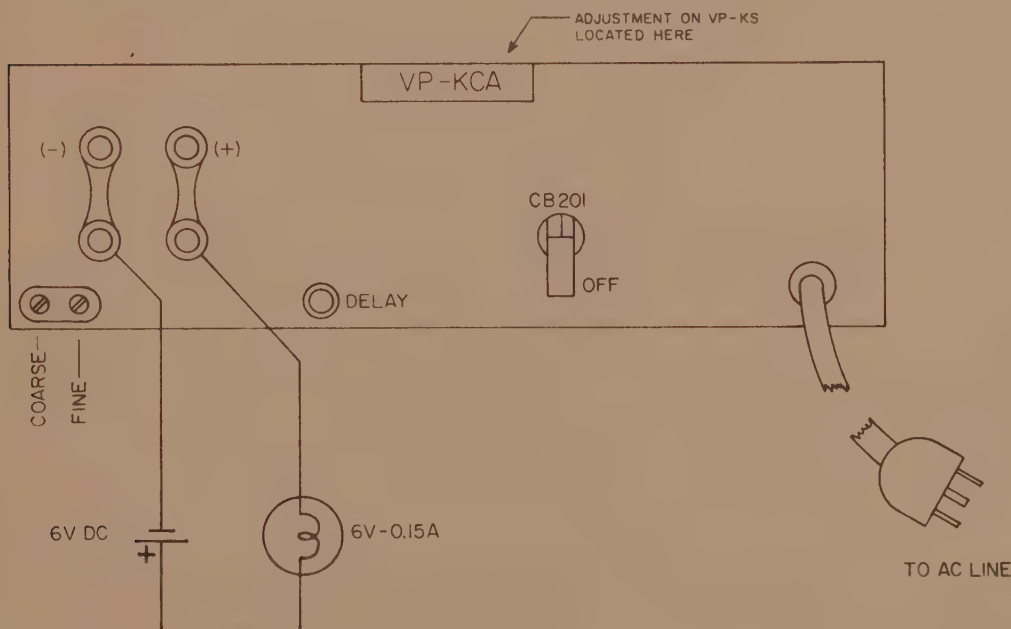

FIG. 5-1 CONNECTIONS FOR FUNCTIONAL TEST
- 5-6 Incoming inspection, or service personnel after repair, may have to test the VP before it is permanently installed and connected to the power supply. Since the VP has its own power transformer, this is readily accomplished by referring to FIG. 5-1 and following the procedure given below.